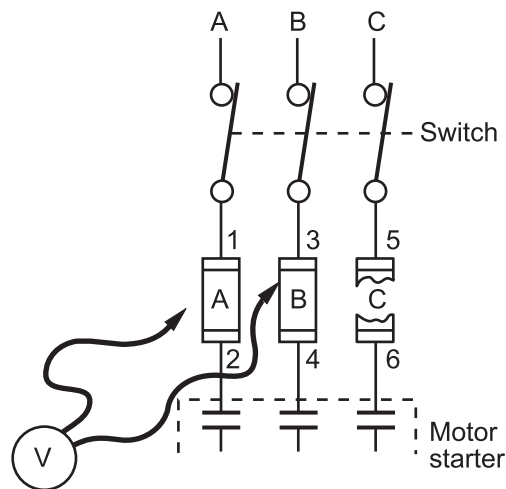

Figure 1—Motor starter circuit for Question 1
1. A voltmeter is used to test for a blown fuse in a three-phase disconnect supplying a motor starter. In Figure 1, if fuse C is blown, determine the reading on the voltmeter when connected across the following pairs of points: